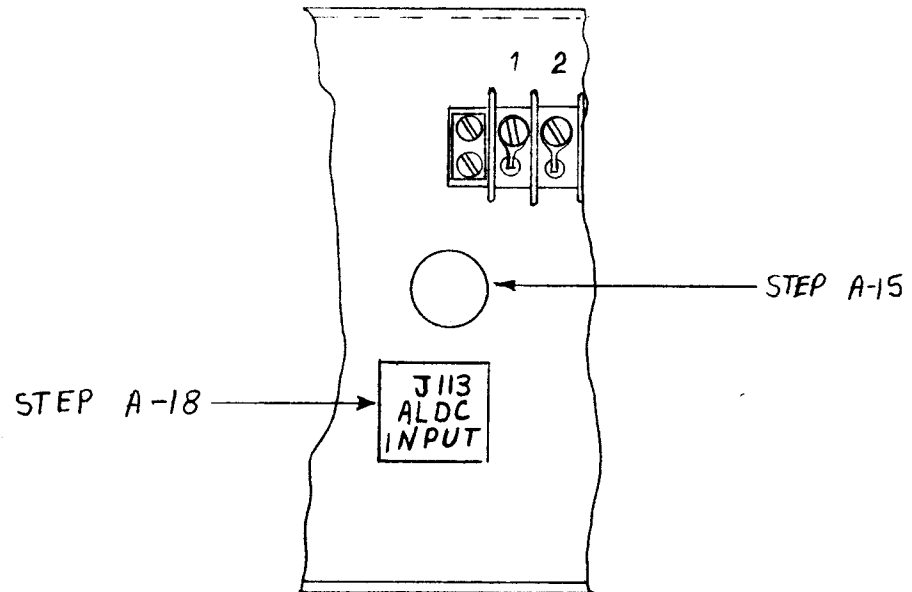

FIGURE 3 \*
15. Mount the RF connector (Item 2) in the hole found in the rear of the SBE-2 as shown in Figure 3. Mount the solder lug (Item 16) over the rear of the RF connector. Proceed now to tighten the locking nut by use of the 1/2 inch open end wrench.
18. Affix instruction nameplate (Item 15) directly to the Bottom of the connector which has just been installed (refer to Figure 3).